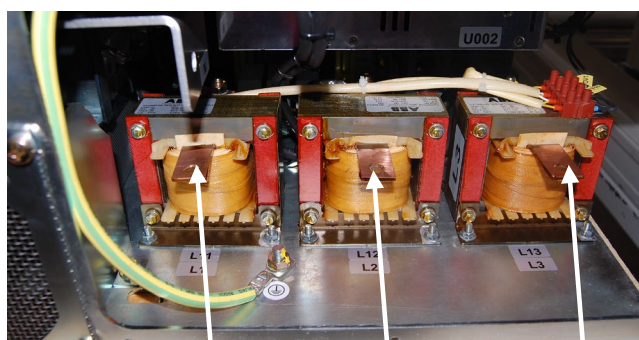

Figure 28: Connecting the three power cables to the filter reactor terminals
6. Connect the three power cables to the reactor terminals (Cf. Figure 28).